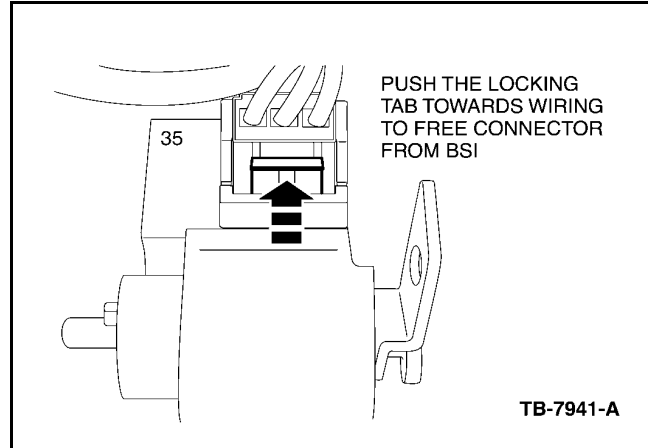

Figure 6 - Article 04-22-12
7. Push the locking tab on the white connector towards the wiring to release the connector from the BSI. Be careful not to damage the connector or wiring. If the connector does not free easily, a very small flat screwdriver may be used to help lift the locking tab (Figure 6).